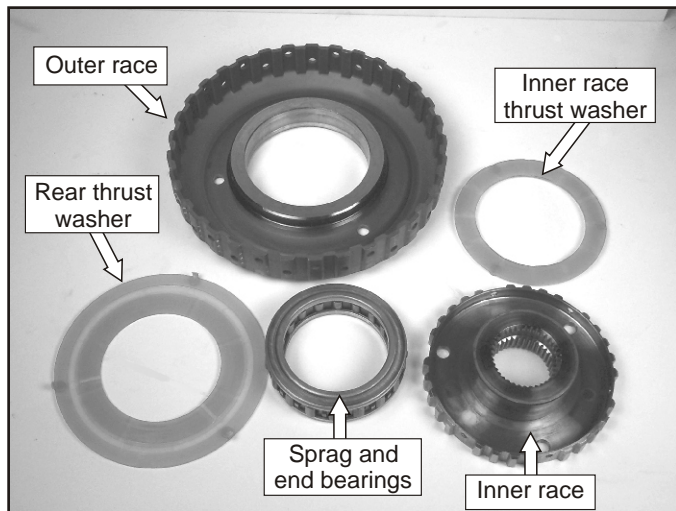

Figure 132
- 79. Refer to Figure 132 for a view of the complete assembly disassembled.